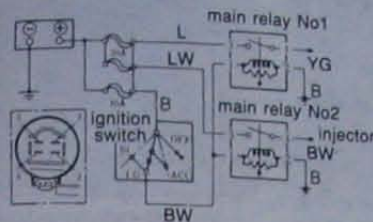

Fig. 4.31 EGI main relay terminal identification for twin circular relays [Sec 31]
- 4 Referring to Fig. 4.31, connect the battery positive (+) terminal to the number 1 terminal of number 1 relay and the battery negative (-) terminal to the number 2 terminal. With the voltage applied, check for terminal to the number 2 terminal. With the voltage applied, check for continuity between number 3 and 4 terminals. Disconnect the voltage and check again for continuity between terminal 3 and 4 of number 1 relay. Repeat the above test on number 2 relay. If all is well, there should